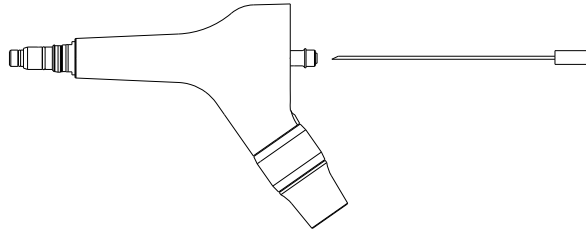

Figure 14
3. Use a long cleaning needle to dredge the inner tube. (See Fig. 14)